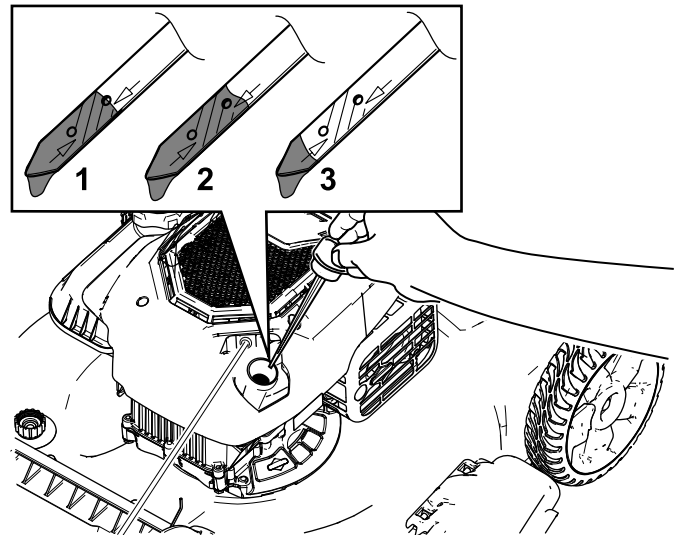

Figure 12
2. Remove the dipstick by rotating the cap counterclockwise and pulling it out (Figure 12).
5. Read the oil level on the dipstick (Figure 12).
- If the oil level on the dipstick is too low (Figure 12), carefully pour a small amount of SAE 30 or SAE 10W-30 detergent oil into the oil-fill tube, wait 3 minutes, and repeat steps 3 through 5 until the oil on the dipstick is at the correct level. For the oil type, refer to Changing the Engine Oil \(page 19\).
- If the oil level on the dipstick is too high (Figure 12), drain the excess oil until the oil